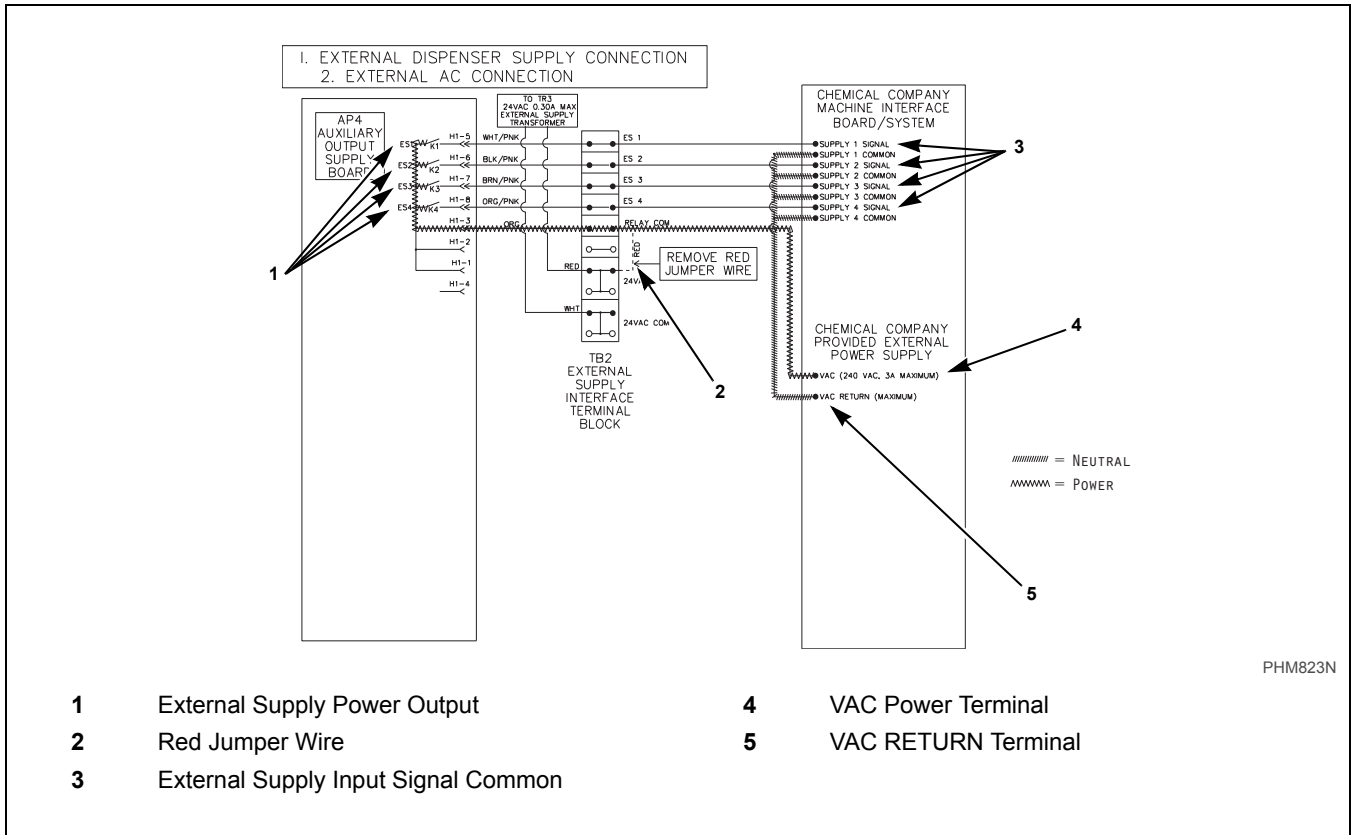

Figure 25
2. Connect one side of the external power to the “RELAY COM” and the other to the external dispenser input signals common. Refer to *Figure 25*.